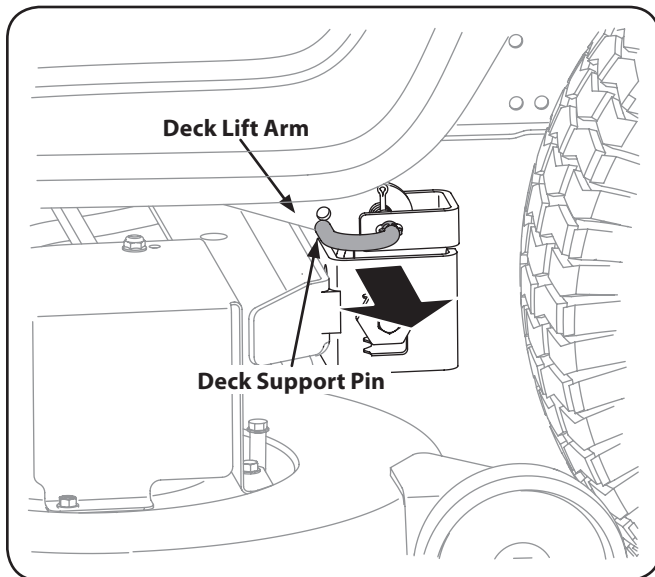

Figure 7-3
7. On 46" Decks: Looking at the cutting deck from the left side of the tractor, locate the deck support pin on the rear left side of the deck. Pull the deck support pin outward to release the deck from the deck lift arm. See Fig. 7-3.